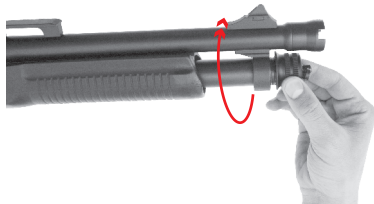

Fig.25
4. Reattach the magazine cap to the magazine tube by rotating it in a clockwise direction until it is firmly screwed down against the forend as shown in (Fig.25).